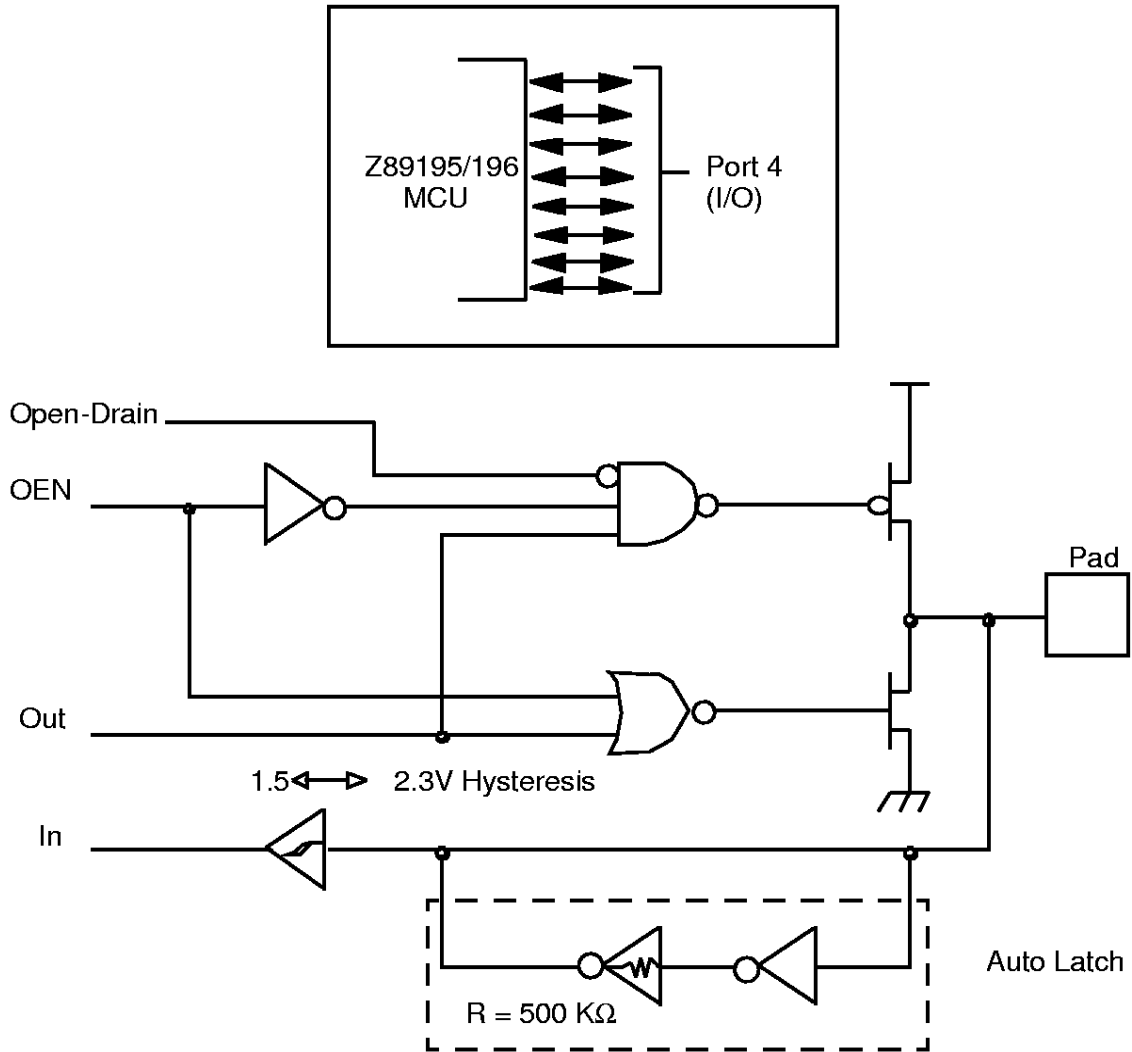

Figure 15. Port 4 Configuration
**Port 4** (P47–P40). Port 4 is an 8-bit, bidirectional, CMOS-compatible I/O port (Figure 15). These eight I/O lines are configured under software control independently as inputs or outputs. Port 4 is always available for I/O operation. The input buffers are Schmitt-triggered. Bits programmed as outputs can be globally programmed as either push-pull or open-drain. The input buffers are Schmitt-triggered. Bits programmed as outputs can be globally programmed as either push-pull or open-drain.